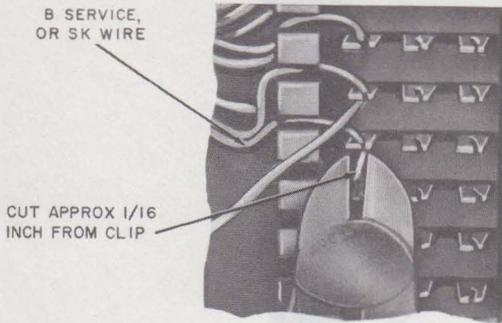

Fig. 5—Cutting B Service or SK Station Wire
- (2) Cut the wire with diagonal pliers, allowing for approximately 1/16 inch of wire to protrude through terminal (Fig. 5).